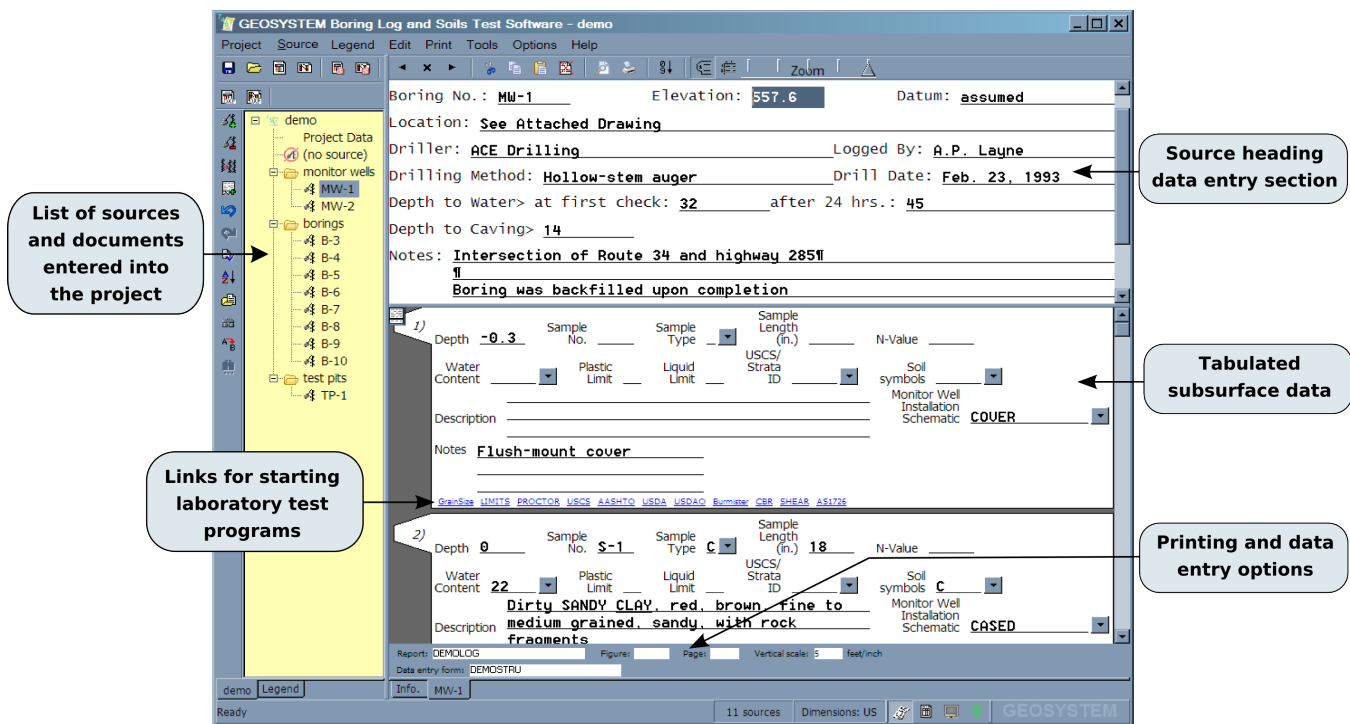
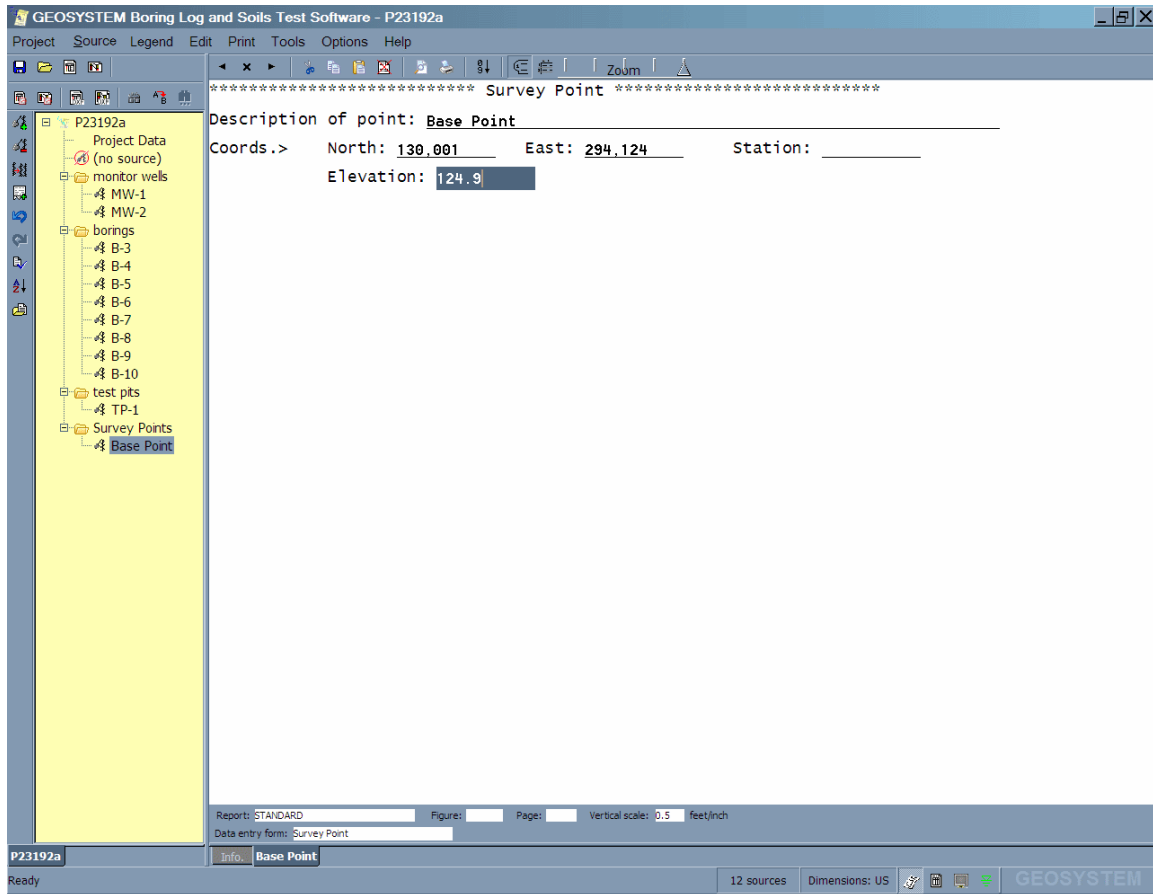

Figure 2.4: Data Entry Screen for a Monitoring Well
Figure 2.7: Survey Point Data Entry
Once you've **opened a project**, the units attached to the project are shown in the lower-right corner of the screen (see Figure 2.4).
Figure 2.4 shows a typical **LOGDRAFT** data entry screen (remember that, since **LOGDRAFT** data entry forms are customizable, your screen will look slightly different).
2. Click on "Project Data" in the list of sources and documents entered into your project (this list is in the panel on the left side of **LOGDRAFT**'s window; it's identified as "List of sources and documents entered into the project" in Figure 2.4).
You don't necessarily enter the same types of data for every source: Compare Figure 2.4, which shows a typical monitoring well data entry screen, with Figure 2.7, which shows the prompts required to enter data for a survey point.
- ⇒ Within a project file, sources are grouped together according the type of data entry form they require, as you can see in the list of sources shown on the left side of the screen shot in Figure 2.4.
Select Source > Duplicate Source Data to just copy the information in the Source Data section of the folder (see Figure 2.4).
2. Click on the source's name in the list of sources and documents entered into your project (this list is in the panel on the left side of **LOGDRAFT**'s window – see Figure 2.4).
§ 2.2 discusses how *LOGDRAFT* uses a file called a *data entry form* to determine the appearance of your data entry screens. When you create a new project you're asked choose a data entry form that will be used whenever you edit that project – once the project's been created you can change your mind and switch to a new form. You can also combine sources requiring different types of data entry forms into a single project – this is useful if, for example, your monitoring well installation reports require you to enter different data than your boring logs. For example, the project being edited in Figure 2.4 uses three separate data entry forms: one form for monitoring wells, one form for regular borings and a form for entering test pit details.